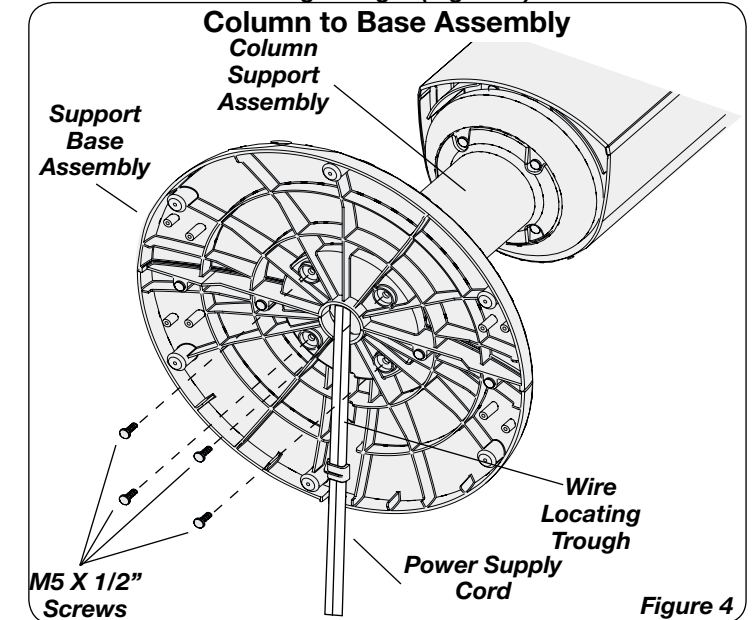

Figure 4
6. Align the Support Base Assembly with the Column Support Assembly, noting that the cord channel on the bottom of the support base should be towards the back of the Fan. Assemble the Support Base Assembly to the Column Support Assembly with (4) 1/2" Long M5 Screws. Gently pull any excess slack of the Power Supply Cord and place it in the Wire Locating Trough. (Figure 4)